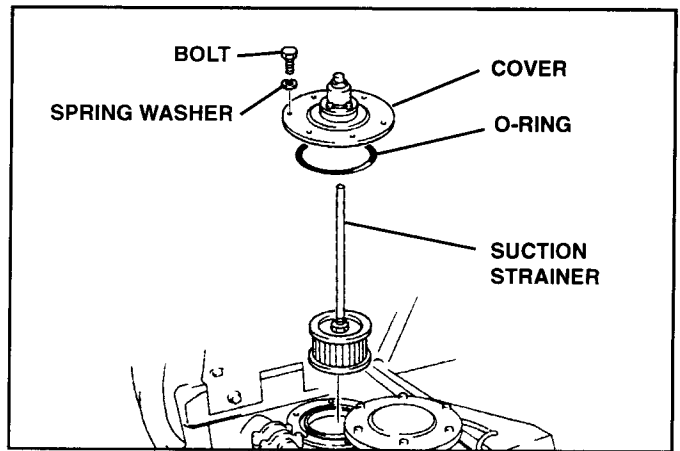

FIGURE 4.110
18. Install new "O"-Ring, part number ZD11G15500, in cover plate mounting surface groove and install Suction Strainer Cover Plate onto Hydraulic Tank. Make certain Plate Boss is inside Suction Strainer Holder. See Figure 4.110.